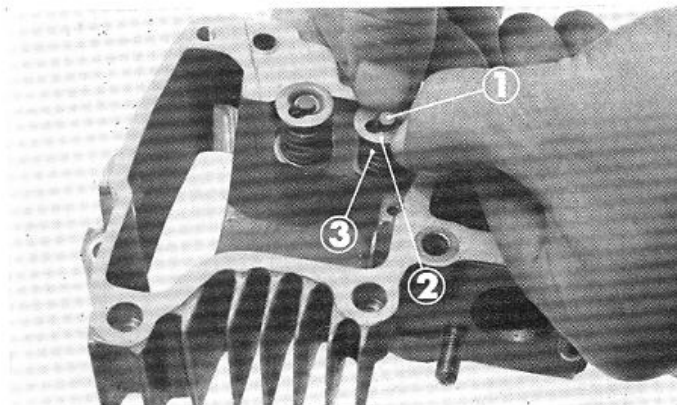

Fig. 2-9 ① Valve ② Valve spring retainer
1. The valve can be removed by pressing down on the valve retainer and matching the recess in the retainer to the end of the valve. (Fig. 2-9)